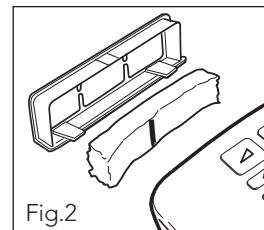

Fig.2
- c. Fill the chamber up to the water-filling line with distilled water only; an optional funnel is supplied for easy filling (Fig.2).
- Replace the old filter with a new filter: ensure the vertical black line is facing towards the device (Fig.2).